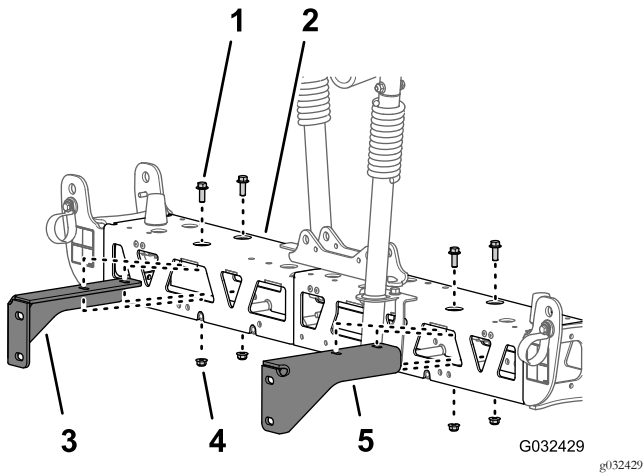

Figure 49
bracket to the center-spray section, and remove the bracket (Figure 49).
3. Remove the 2 flange-head bolt (3/8 x 1 inch) and 2 flange locknut (3/8 inch) that secure the other support bracket to the center-spray section, and remove the bracket (Figure 49).